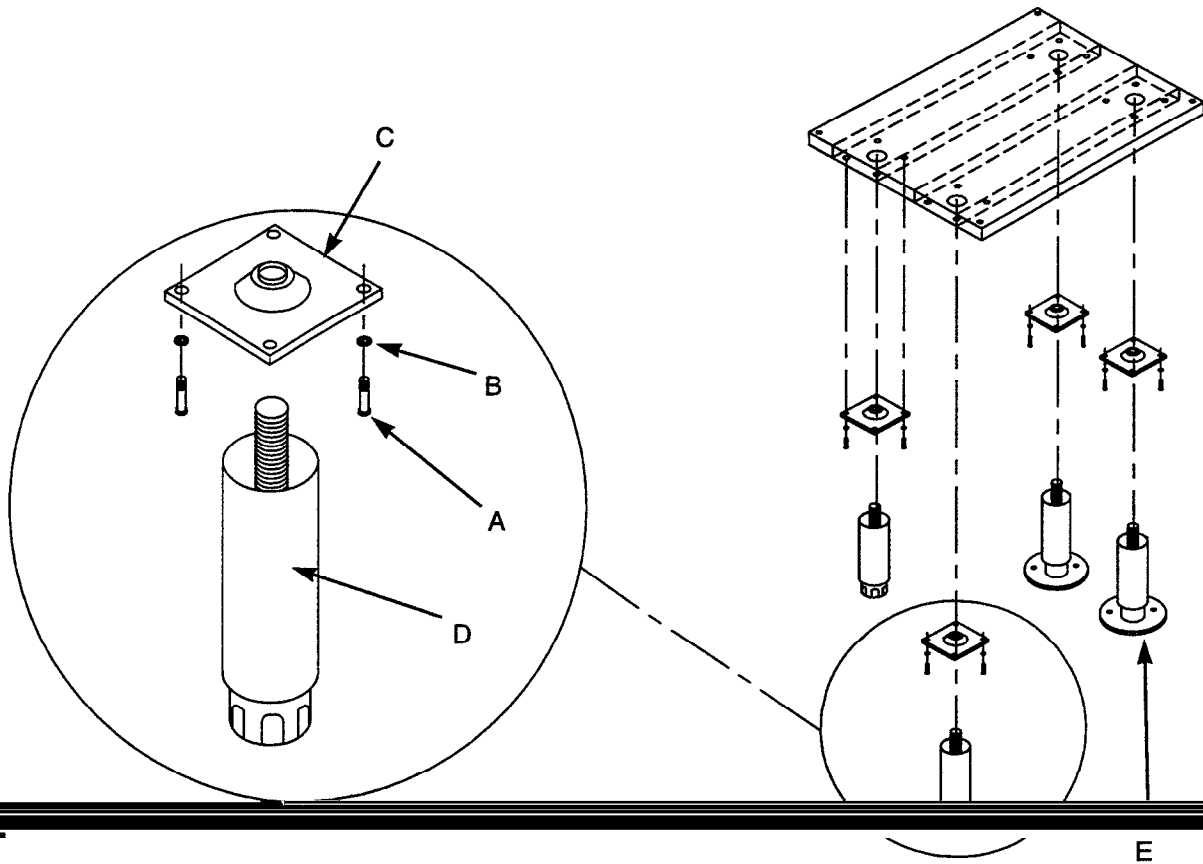

FIGURE 1
2. Shipped with every unit should be a leg package containing four legs. Two of which will have flanges for bolting them to the floor. These legs are to be installed on the rear of the unit. These are labeled (Item "E") in figure 1. The other adjustable legs are to be installed on the front of the unit.
3. Leg pads (Item "C") in figure 1 have already been installed on the bottom of the unit. To install legs simply screw them into the leg pads.